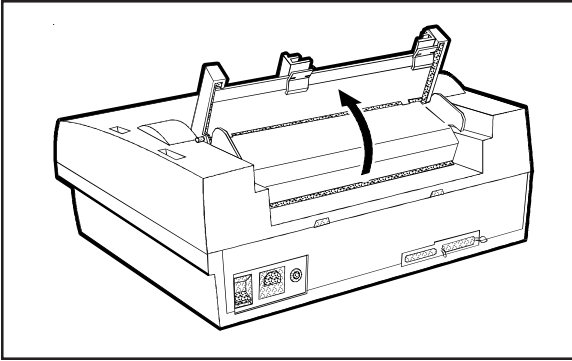

Figure 3-5. Raising the Tractor Cover
2. Raise the paper support and tractor cover, as shown in figure 3-5.